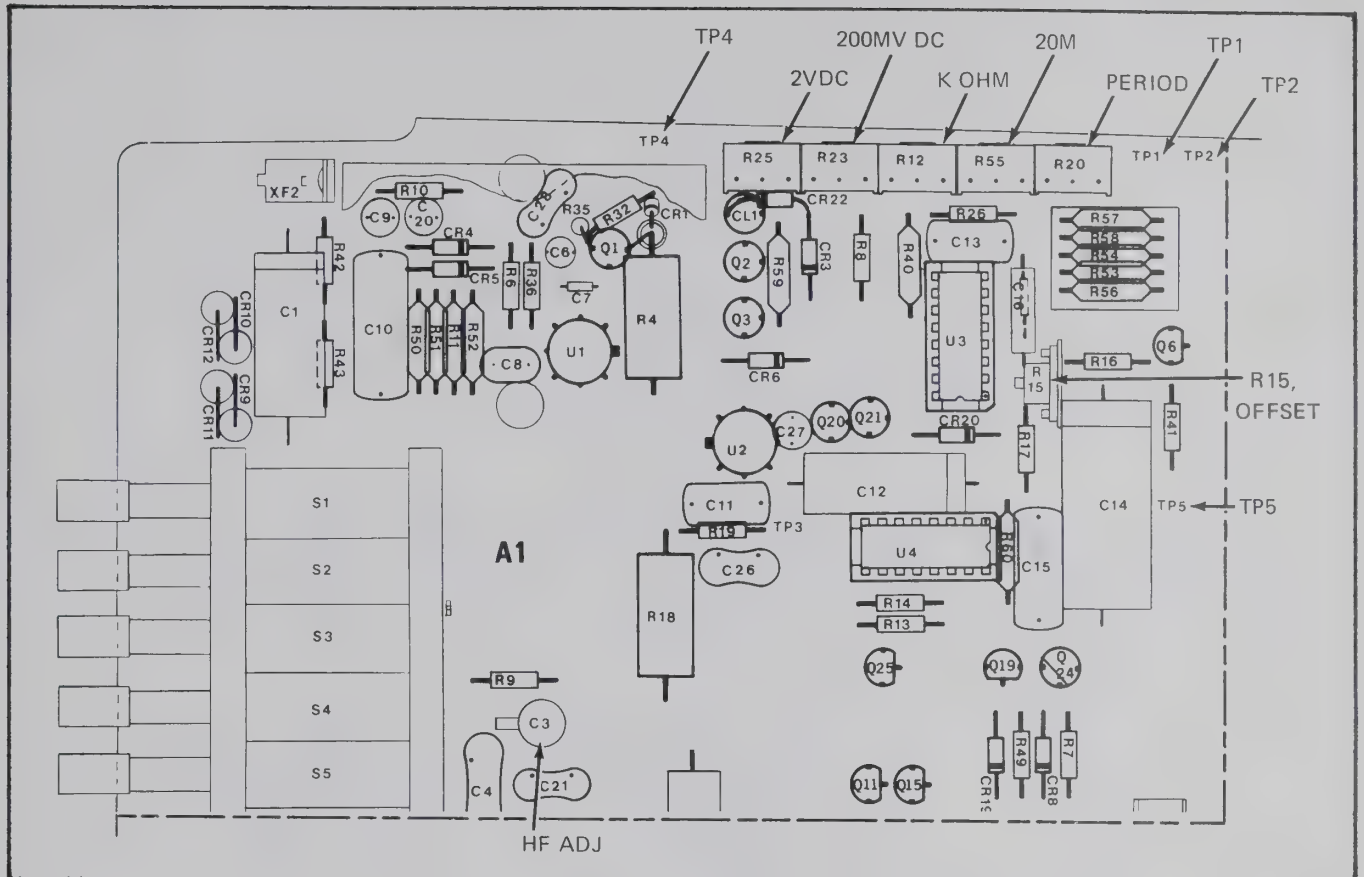

Figure 4-1. ADJUSTMENT AND TEST POINT LOCATIONS
- Connect the frequency counter between TP5 and TP4 (common) as shown in Figure 4-1.
- Using an appropriate adjusting tool, adjust R20 (Period), shown in Figure 4-1, for a time period of 100 ms  $\pm 5\mu$ s. Variations of the time period should be  $\leq \pm 15\mu$ s.
- Adjust R25 (see Figure 4-1) for a readout of +190.0.
4-32. The 8000A range adjustments are accomplished in accordance with the instructions given in Table 4-3. Perform each adjustment and/or check in the order listed. The shaded areas of the table separate the adjustments from the checks. Refer to Figure 4-1 for the location of the specified adjustment. The following test equipment from Table 4-1 is used to provide the input specified for each function.